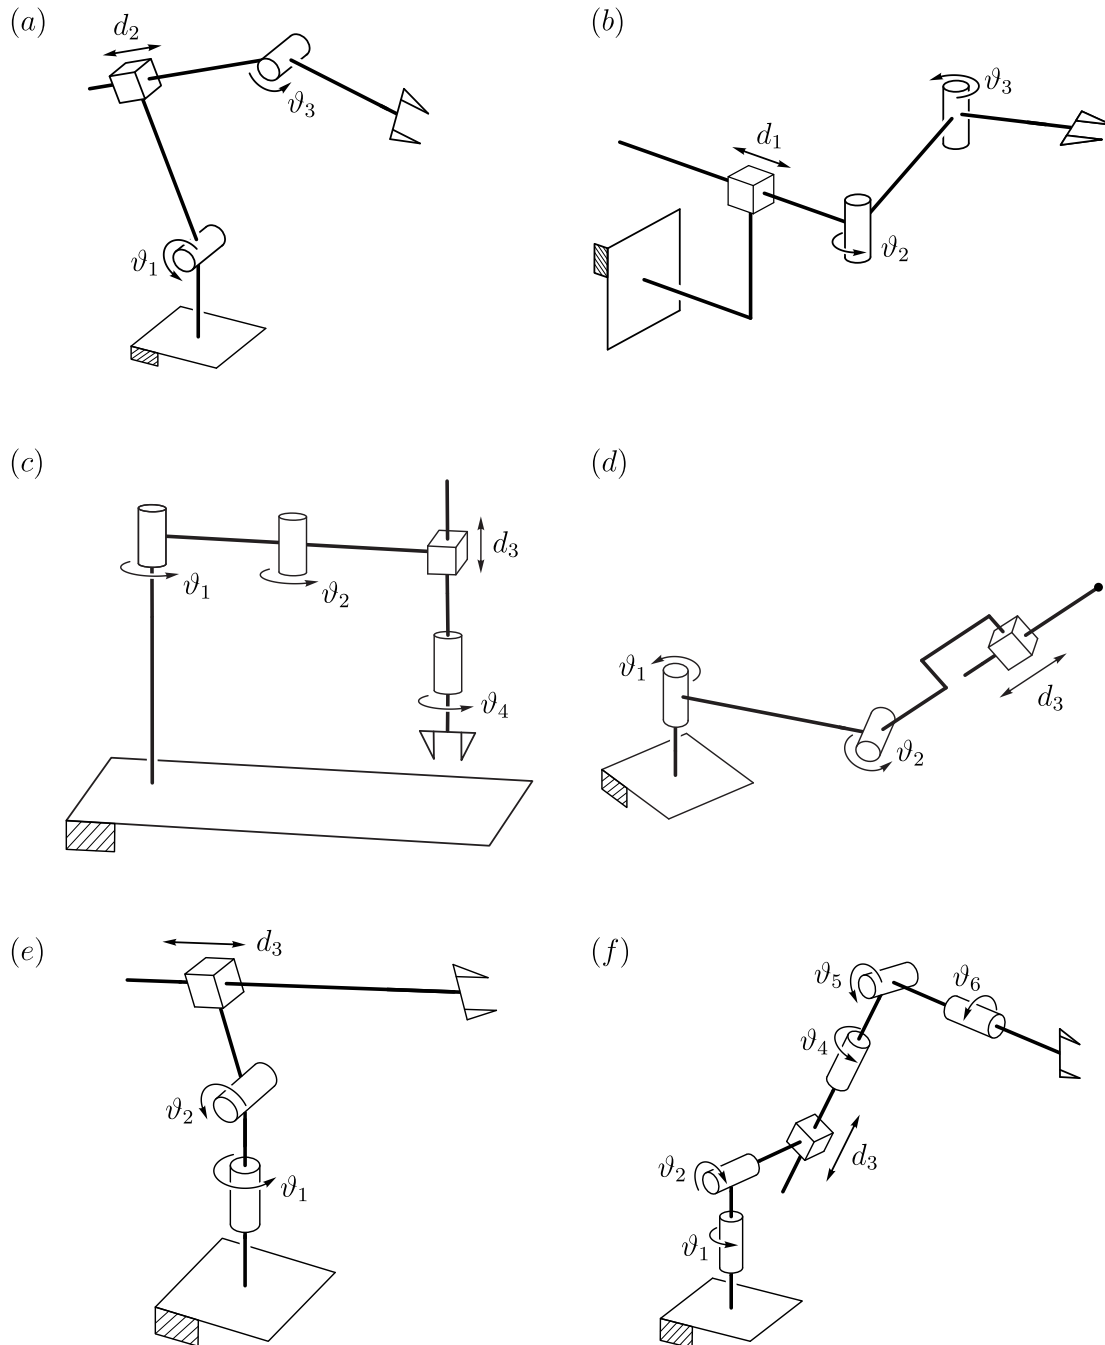

Figure 1: Manipulators. (a) Circular, (b) Stadium, (c) SCARA, (d) Toroidal, (e) Spherical and (f) Stanford.
1. Consider the robotic manipulators illustrated in Figures 1 through 2. Place the reference frames over the manipulators, according to the Denavit-Hartenberg methodology, and build their appropriate table of parameters.
2. Solve the inverse kinematics for the manipulators in Figure 1.